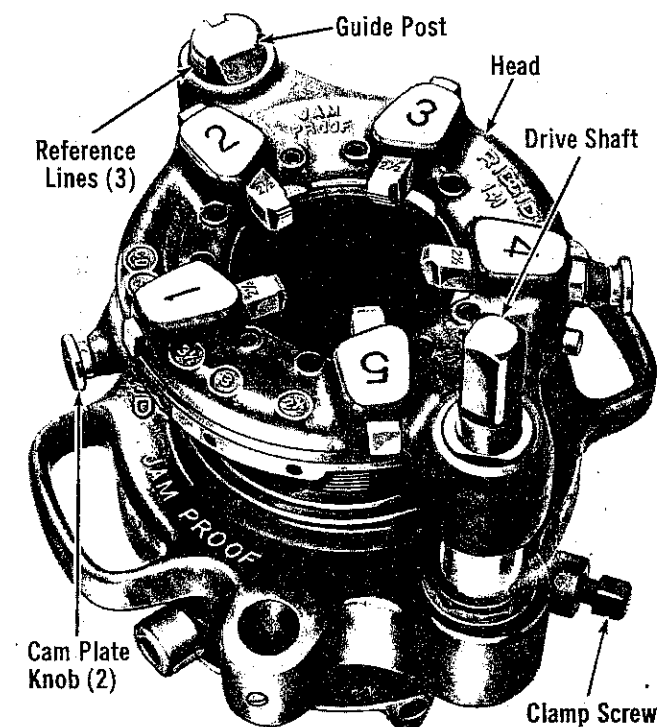

Figure 20. No. 141 Geared Threader with Drive Shaft Up (No. 161 Threader Similar).
7. Tighten Workholder Clamp Screw (Figs. 20 and 22) securely.
141 and 161 - Loosen Jaw Clamp Screw (Fig. 20) and turn Workholder to OPEN position.
2. Pull Knobs (Fig. 20) of Cam Plate and rotate Cam Plate to desired pipe size marking on top of Die Head. Release Knobs when Locating Pins drop into holes in Selector Plate.
2. Pull Knobs (Fig. 20) and rotate Cam Plate to CD mark on top of Die Head.